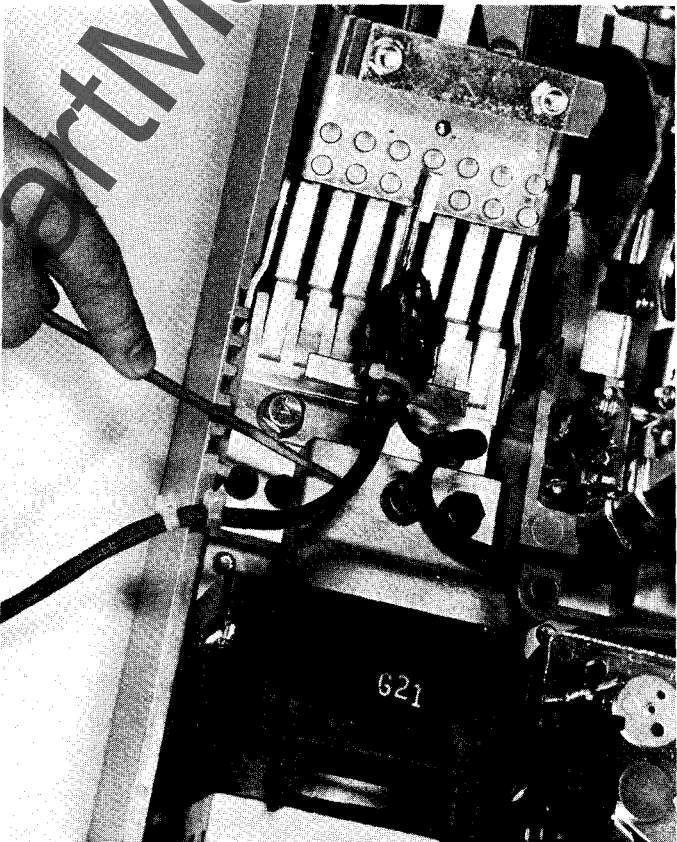

Figure 27. View Showing Knockout Method
- f. Pass the other lead through the flexible sleeve on the switch assembly. Install wire ties on wire bundle on the inside and outside of base to provide strain relief. (See Figure 27).
- a. File out one knockout in the left side of the base just deep enough to allow the leads to exit. (Figure 27) Remove all debris.
3. Insert the wires and flexible sleeving from the blown fuse trip device through the knockout in the left side of the breaker base. (See Figures 27 and 30.)